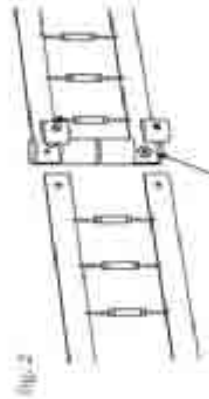

fig. 2
Step 2 : Installing connectors (fig. 2)